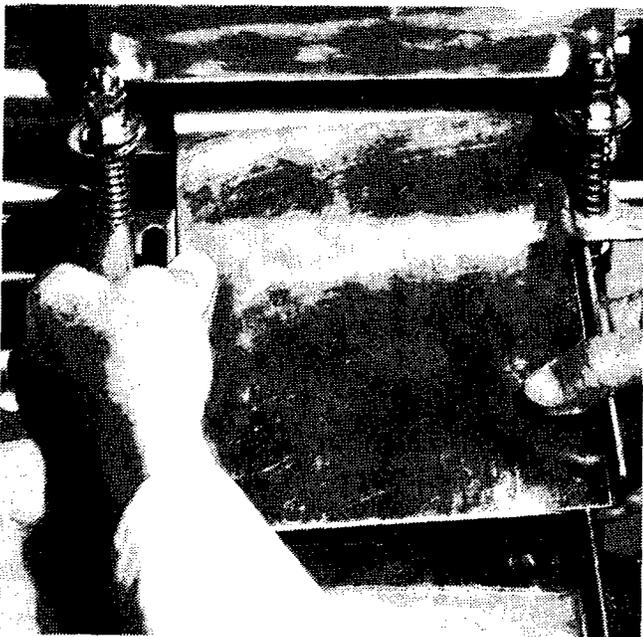

Figure 3-4. Removing Short Bottom Scraper Slide.
(4) *Short bottom scraper slide and tip (5, Figure 4-1). Refer to Figures 3-4 and 3-5.*